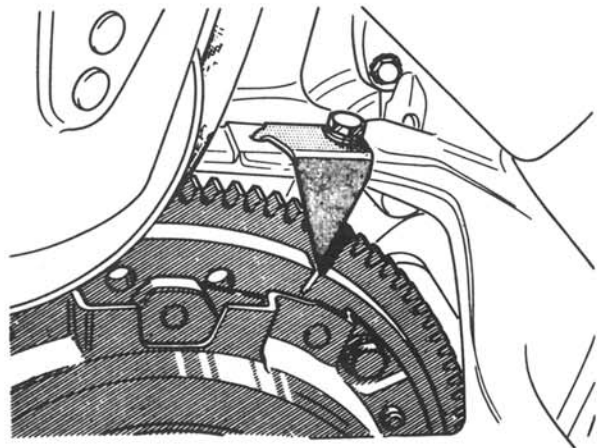

FIGURE 71. FLYWHEEL TIMING MARK (TDC)
7. Timing is at TDC (Figure 71).